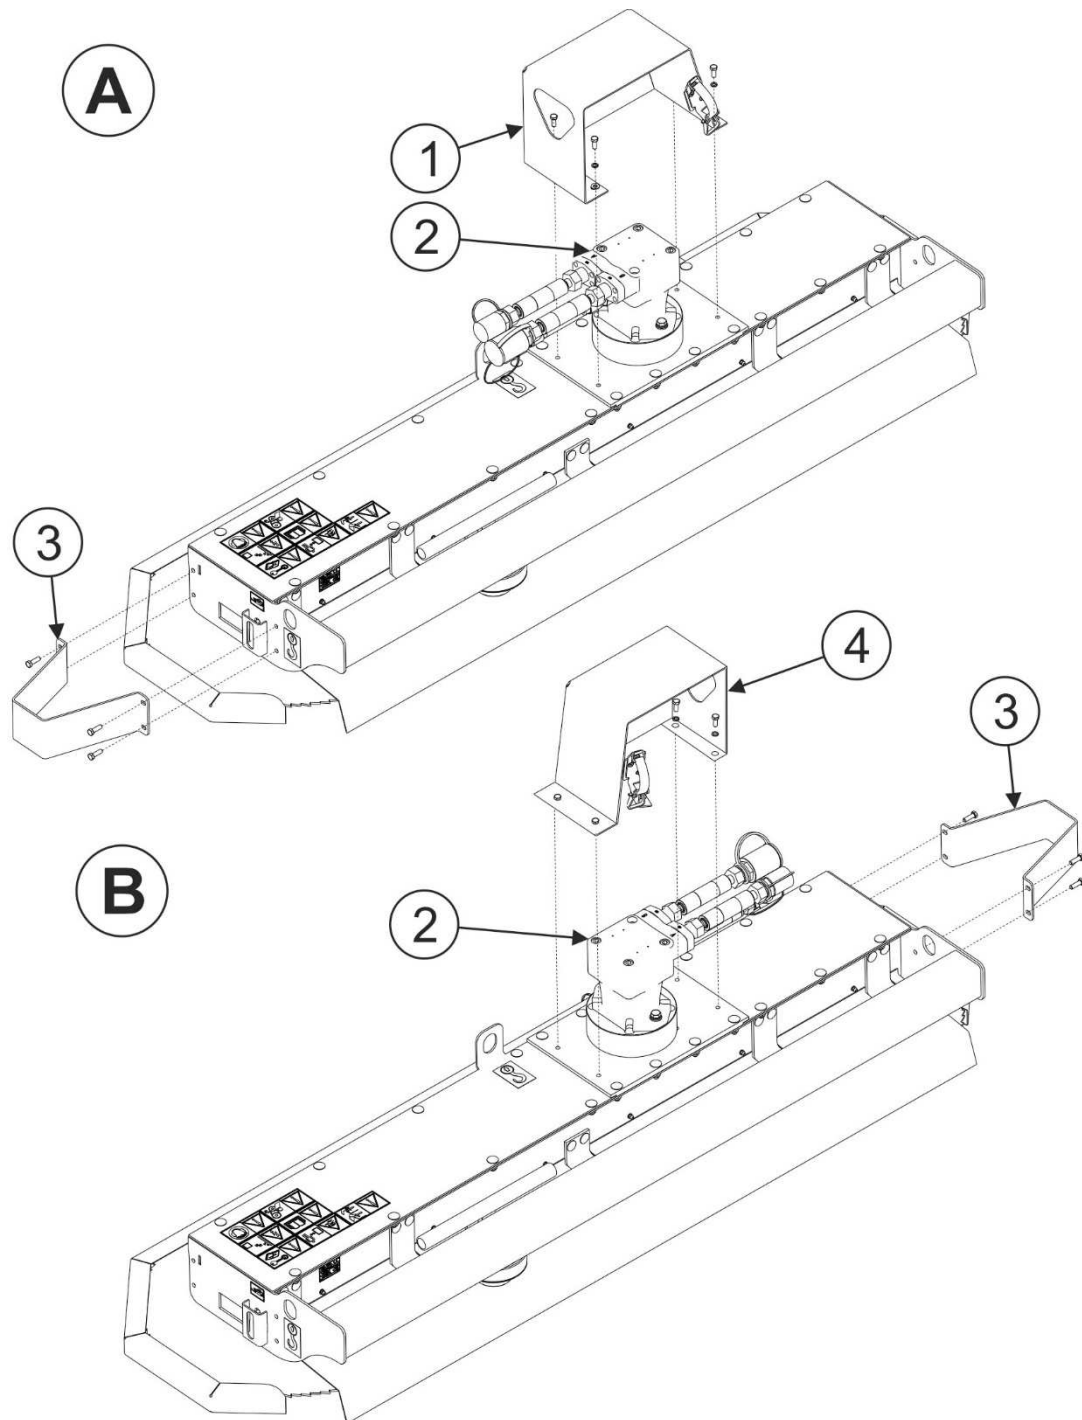

FIGURE 4.2 Adapting the branch cutting saw to operation on the left side of the multifunction arm.
(1)- multifunction arm head; (2)- support beam of branch cutting saw; (3)- fixing bolts of branch cutting saw; (4)- quick couplers of multifunction arm; (5)- quick couplers of the hydraulic motor of the branch cutting saw.
The standard version of the branch cutting saw is designed for working on the multifunction arm installed on the right side of the tractor. If the branch cutting saw has to work on the multifunction arm installed on the left side of the tractor, turn the hydraulic motor (2) (FIGURE 4.2) by 180 degrees and install the left housing (4) (optionally available) designed for the relocated motor. Move the side shield (3) of the branch cutting saw from the left side to the right side of the housing (FIGURE 4.2).
- raise the branch cutting saw above the hitch of the multifunction arm head (FIGURE 4.2)